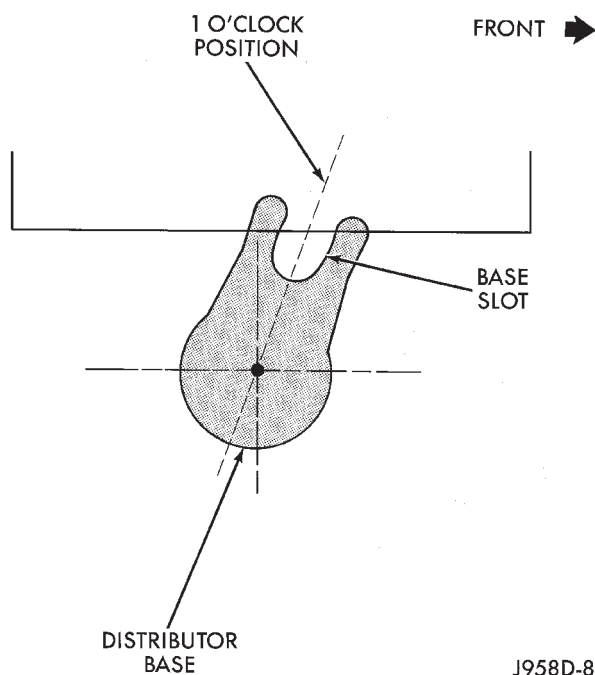
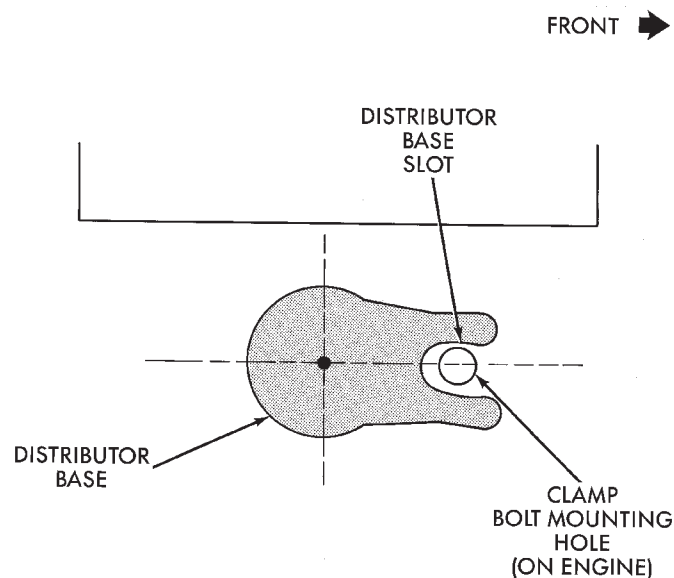
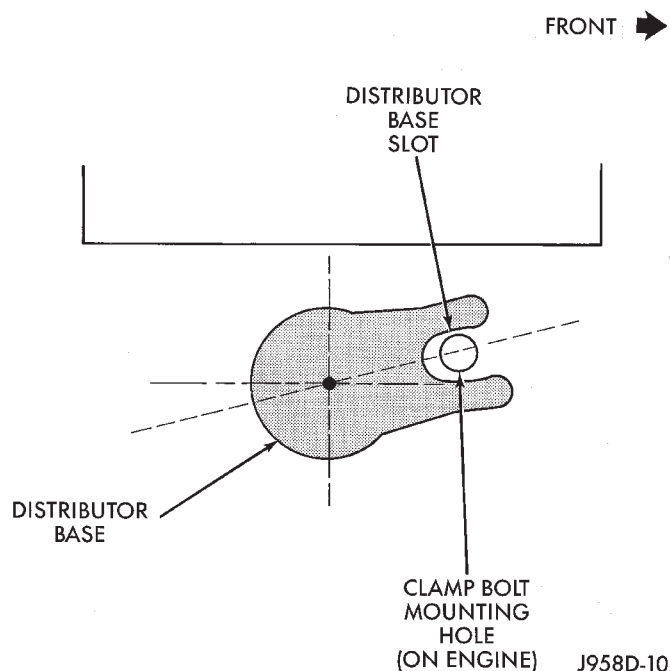

Fig. 41 Distributor Pre-position—All Engines
Fig. 42 Distributor Engaged Position—2.5L 4-Cylinder Engine
Fig. 43 Distributor Engaged Position—4.0L 6-Cylinder Engine
(10) Install the rotor to the distributor shaft.
(11) **2.5L 4-Cylinder Engine:** Pre-position the distributor into the engine while holding the centerline of the base slot in the 1 o'clock position (Fig. 41). Continue to engage the distributor into the engine. The rotor and distributor will rotate clockwise during installation. This is due to the helical cut gears on the distributor and camshaft. When the distributor is fully seated to the engine block, the centerline of the base slot should be aligned to the clamp bolt mounting hole on the engine (Fig. 42). The rotor should also be pointed slightly past (clockwise of) the 3 o'clock position.
4.0L 6-Cylinder Engine: Pre-position the distributor into the engine while holding the centerline of the base slot in the 1 o'clock position (Fig. 41). Continue to engage the distributor into the engine. The rotor and distributor will rotate clockwise during installation. This is due to the helical cut gears on the distributor and camshaft. When the distributor is fully seated to the engine block, the centerline of the base slot should be aligned to the clamp bolt mounting hole on the engine (Fig. 43). The rotor should also be pointed at the 5 o'clock position.